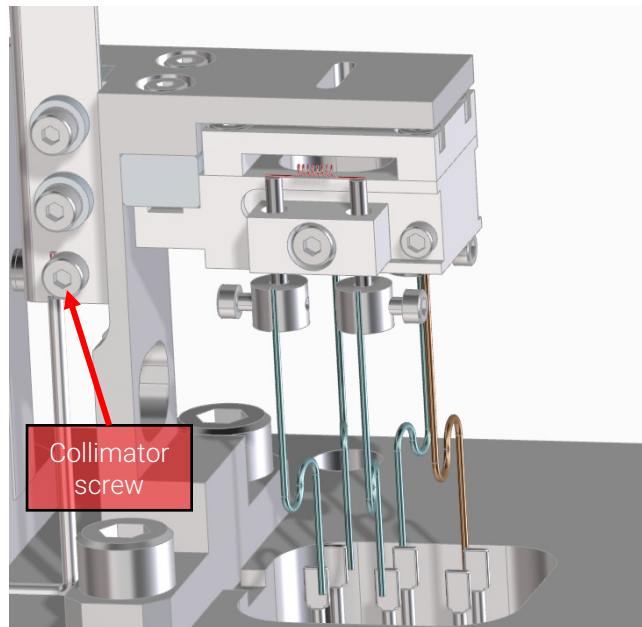

Figure 2-6. Collimator wire connection
17. Connect the collimator wire to the collimator plate using an M 1.5 screw. See Figure 2-6.